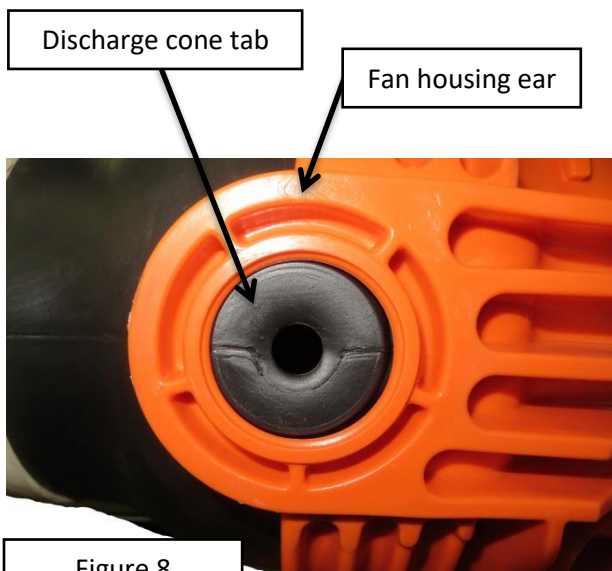

Figure 8
5. Inspect blower discharge cone at Fig. 8 & 9. Blower discharge cone must be aligned squarely with the fan housings before installing the remaining three lags that fasten the discharge pipe to the discharge cone. If discharge cone is out of square with the fan housings, it will put extra stress on one of the fan housing ears, and may lead to breakage of the fan housing. After it is squarely aligned with the fan housings, install the remaining three lags. Then as a final check, make sure that there is not excessive pressure on the fan housings. You should be able to move the discharge pipe & cone back and forth slightly in the fan housing ear.